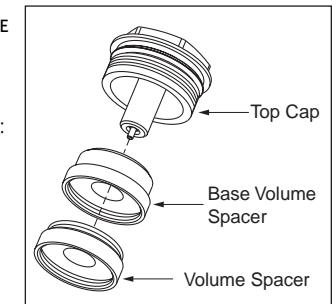

Fig. 6
- To add volume spacers, snap a volume spacer into the bottom of the base spacer (Fig. 6)